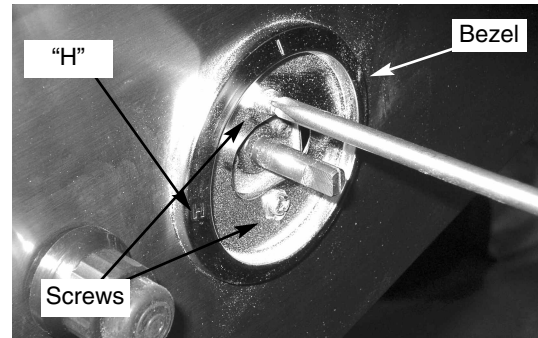

Fig 34
7. Reattach the bezel to the front of the side burner and the NG valve with the two (2) screws previously removed. (See Fig. 34).